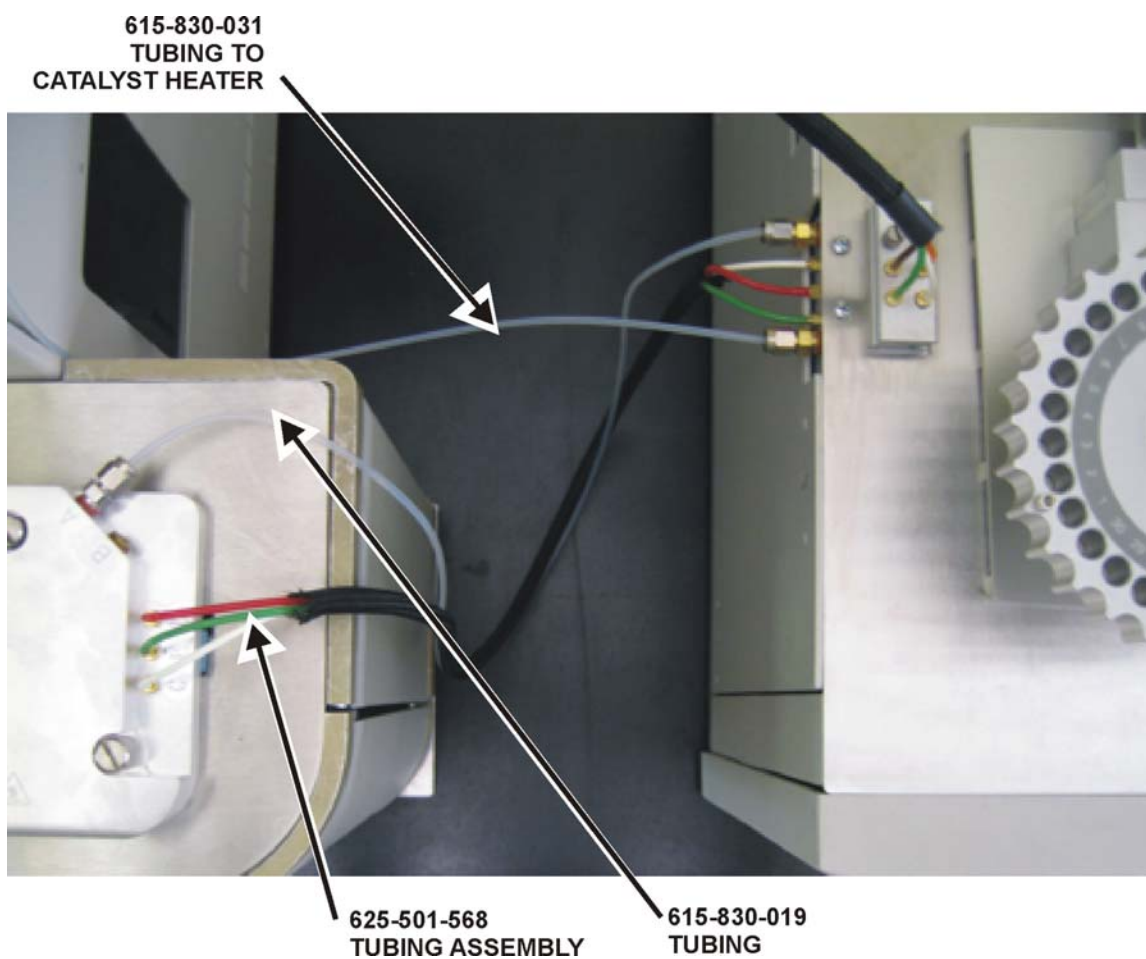

Figure 3-22
2. Remove the loading head, lance and crucible from the determinator oxidation furnace then install the furnace adapter plate and 602-803 O-ring. Secure with the thumbscrews. Refer to Figure 3-22 on page 3-52.
21. Connect tubing, between the TruSpec Determinator and TruSpec Oxygen Furnace as shown in figure 3-22 on page 3-52. Use 615-830-019 tubing and the 625-501-568 tubing assembly.